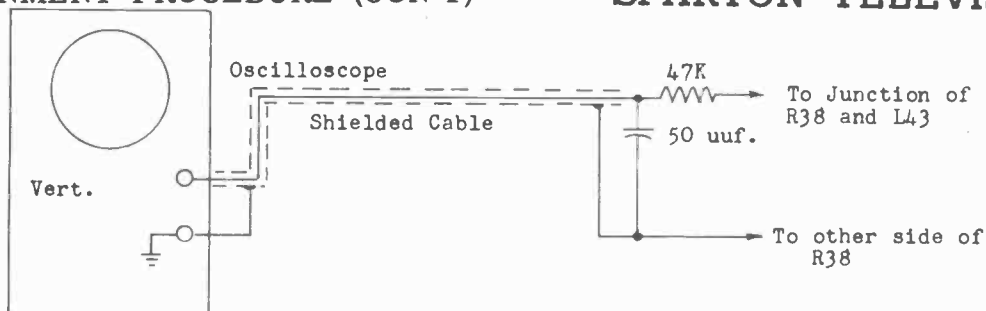

Fig. 18 FILTER SYSTEM FOR SCOPE CONNECTION
**THIRD:** Connect the oscilloscope across the picture detector load resistor R36 (point A, Fig. 13) by means of the shielded cable and the filter system shown in Fig. 18.